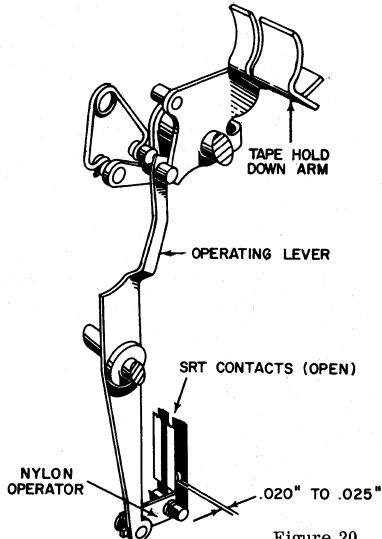

Figure 20
1. In the tape reader, the tape hold down arm operates the reader tape contacts (SRT) (Figure 20). When the arm is opened, the circuit to the reader control relay is broken so the arm must be closed for reading to take place. Adjust the contacts to a gap of .020" to .025" with the arm open and see that there is an appreciable amount of follow with the arm closed. There should be no lost motion in the nylon operator.